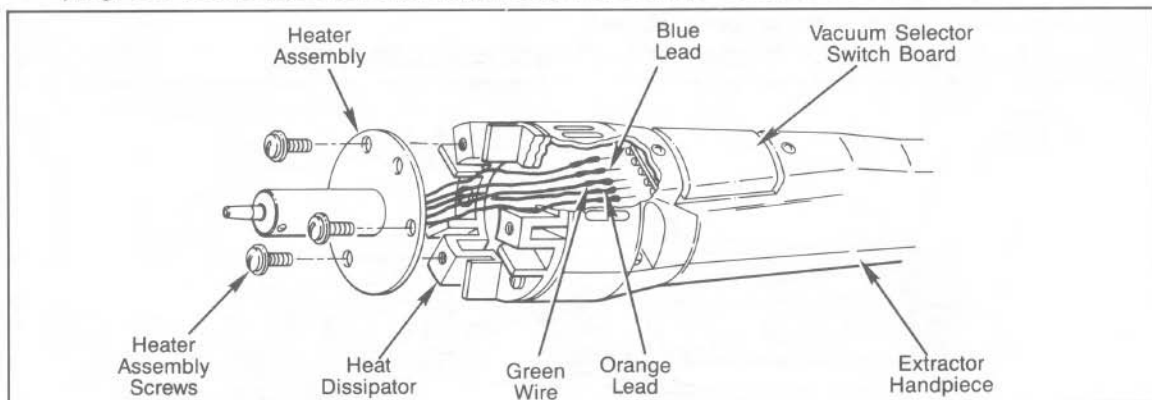

FIGURE 6. EXTRACTOR HANDPIECE HEATER ASSEMBLY REPLACEMENT
- remove End Cap Assembly and Glass Chamber (refer to Figure 6).
- remove three (3) screws on the Heater Assembly flange (refer to Figure 6), let Heater Assembly hang loose. (**NOTE: DO NOT** pull Heater Assembly from Handpiece at this time).
- using Tip Tool or needle nose pliers, disconnect the five (5) leads plugged into the Cord and Switch Assembly (refer to Figure 6). Remove defective heater Assembly from Handpiece.
- using Tip Tool or needle nose pliers, carefully plug the three (3) color coded leads of the new Heater Assembly into the color coded receptacles of the Vacuum Control Switch board.